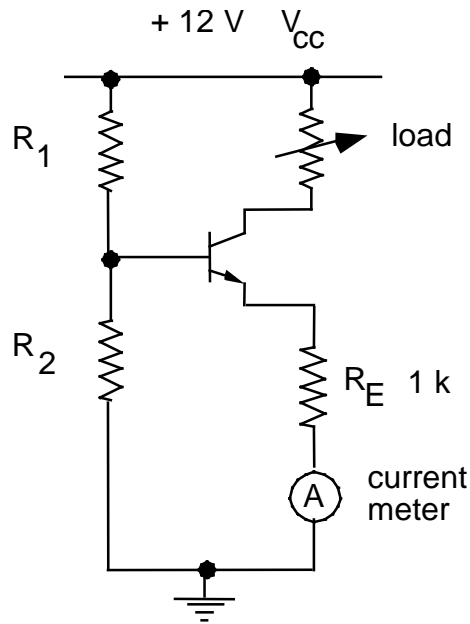

Figure 4-10
- } A current source (Figure 4-10) will supply a constant current to a range of load resistances. The current that is "sourced" or "sunk" is determined by the emitter potential and the emitter resistor R_E .
- * Using the +12 V power supply built into your prototyping board, connect the circuit shown in Figure 4-10. For the load resistor, use a resistor substitution box, set to 2 k Ω to begin.